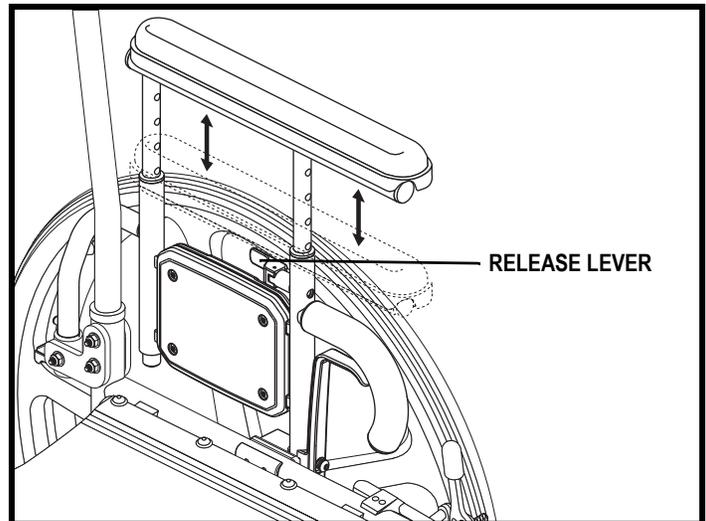

Figure 37. Dual-post Armrest Height Adjustment
1. Rotate the release lever that is located on the armrest in either direction. See figure 37.